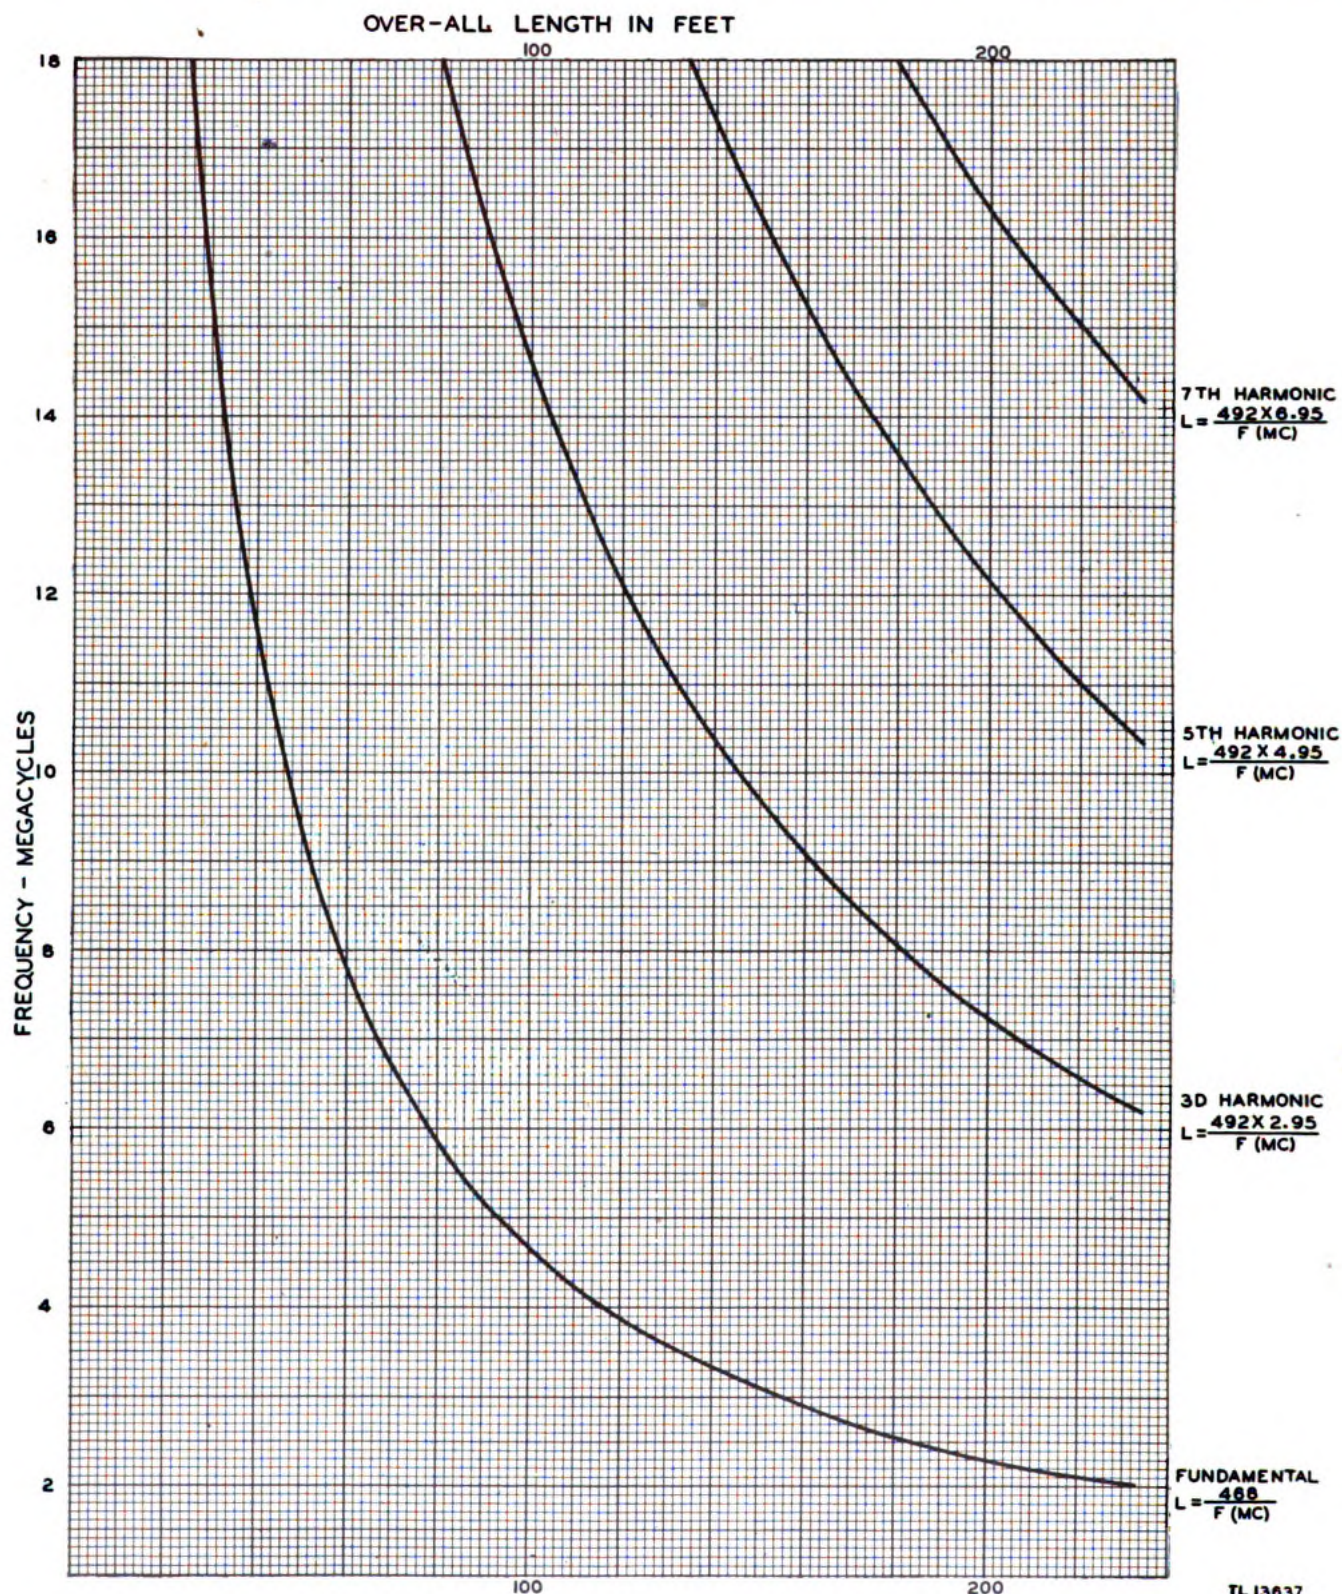

Figure 15. Radio Set AN/MRC-1—frequency vs. length chart of doublet antenna.
a. Antenna System AS-95()/MRC-1 is a half-wave doublet designed to operate on the fundamental frequency or any odd harmonic of the fundamental frequency. Figure 15 is a graph of frequency plotted against length showing the fundamental, third, fifth, and seventh harmonics.
b. By referring to figure 15, select the proper antenna lengths for the operating frequencies to be used when transmitting.
Note. See figure 15 for formulas to calculate harmonics.